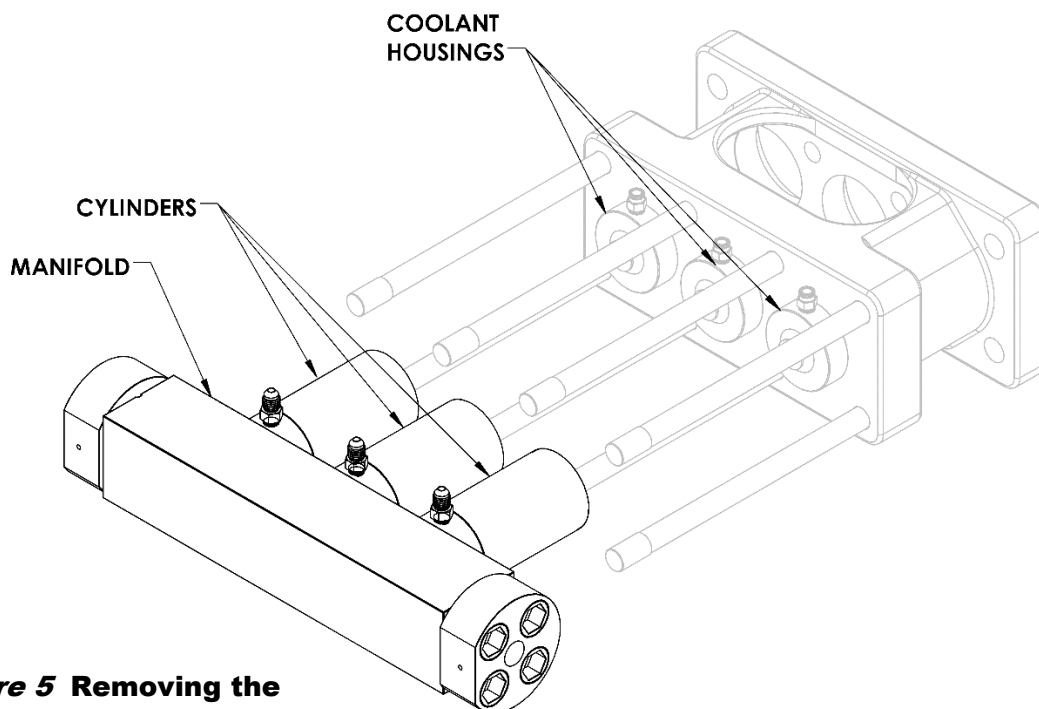

Figure 5 Removing the Wet End Assembly
6. **Slide** the wet end assembly away from the coolant housings. (See **Figure 5 below.**) **Ensure** that the assembly remains level as you **pull it straight back** being careful to **prevent** any binding of the internal plungers. (All components usually remain in the cylinders as the wet end assembly is removed.)